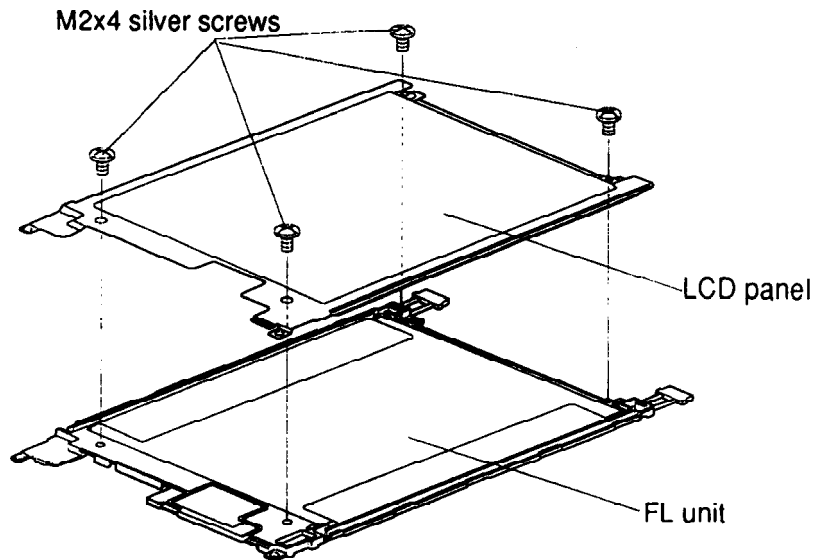

Figure 4-30 Removing the FL Screws
4. Remove the **four M2x4 silver screws** securing the **FL unit** and **LCD panel** to the back frame (Figure 4-30).
2. Secure the **LCD panel** with **four M2x4 screws** (Figure 4-30).